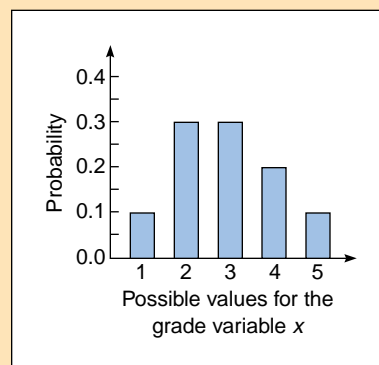

FIGURE T1.1 ■ Probability Function for Grades
The responses to this query of the 100 potential students are summarized in the table below. Also shown is the probability for each possible grade outcome. This discrete probability distribution is computed using the relative frequency approach. Probability values are also often shown in graph form as in Figure T1.1.
The expected grade of 2.9 implies that the mean statistics grade is between D (2) and C (3), and that the average response is closer to a C, which is 3. Looking at Figure T1.1, we see that this is consistent with the shape of the probability function.